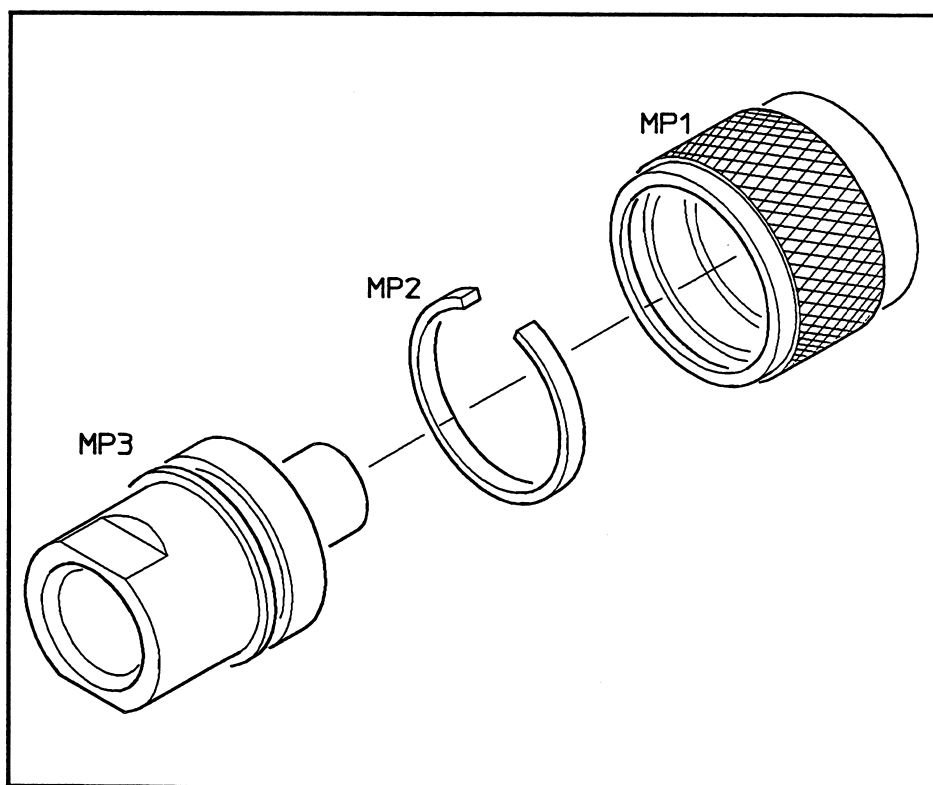

Figure 6. P/O A1 Bulkhead Assembly
1. Refer to the parts list and figures 6, 7, and 8. Order the internal type N bulkhead parts A1MP1 through A1MP12. (HP 8482A and 8483A do not use A1MP12 polyiron slug. The precision 7mm